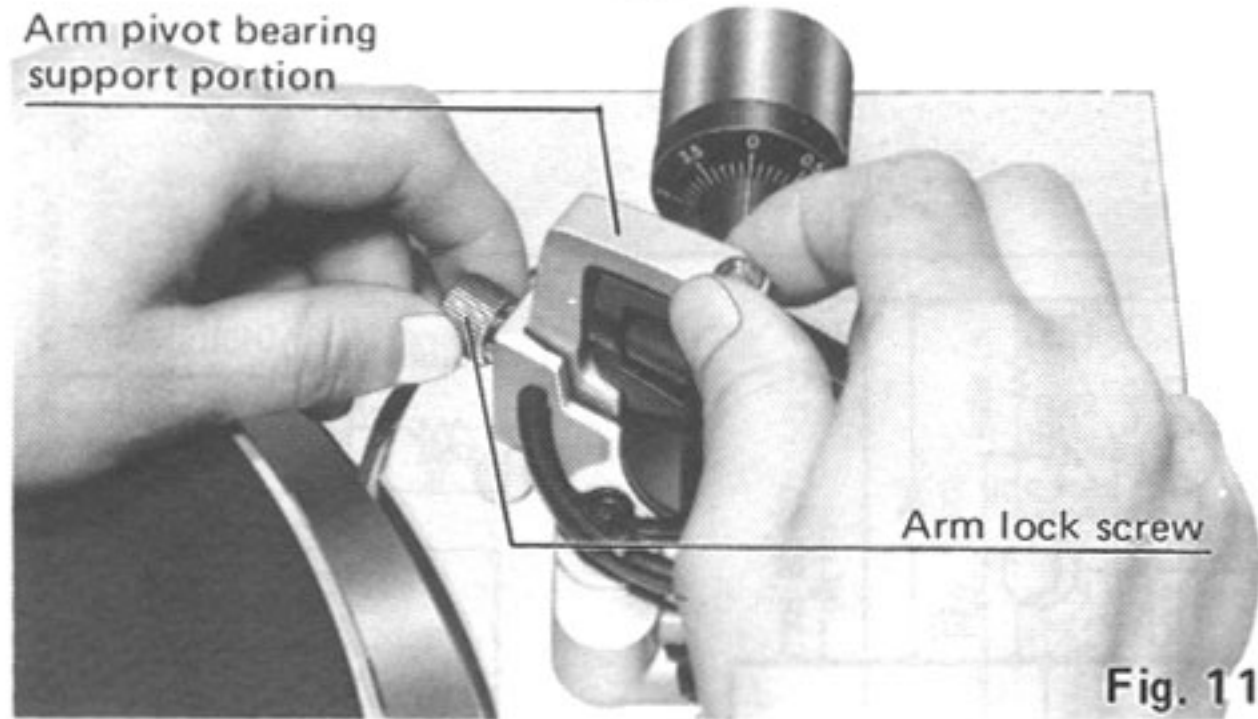
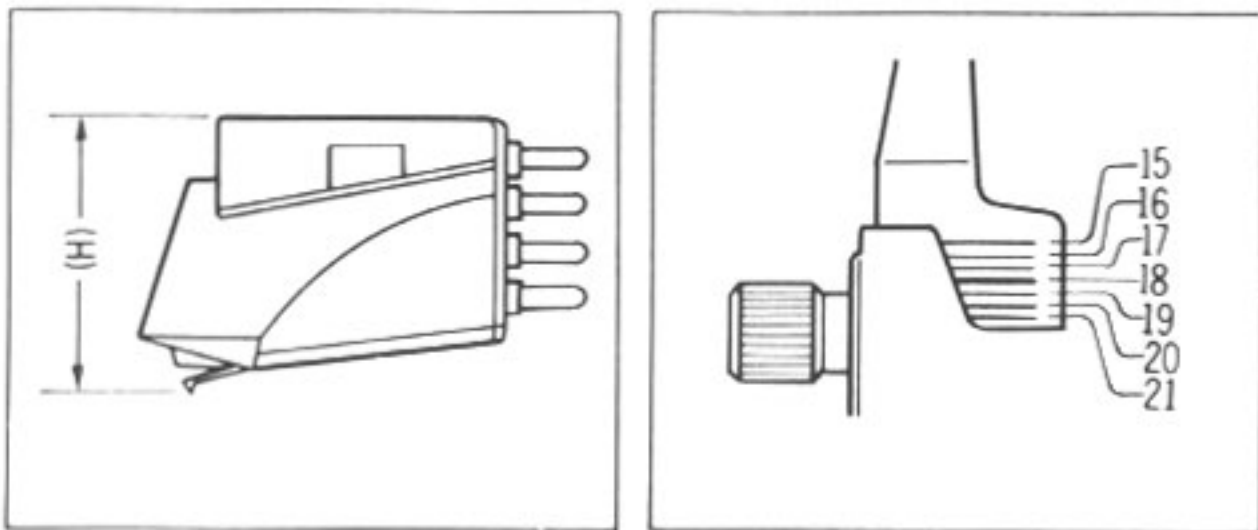

Fig. 11
Fig. 12
### Adjustment of the arm height. (See Fig. 11, 12)
- If the cartridge height is 18 mm as shown in figure 11, align the fourth line ("18") on the gimbal support portion with the arm base edge as shown in the picture. (See Fig. 12)